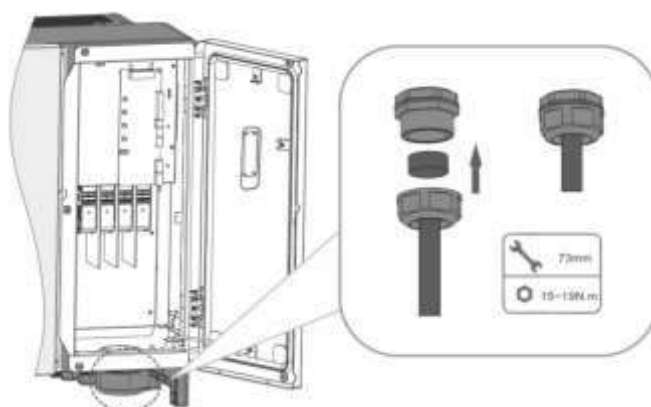

Fig. 4-35 Pull the cable and fasten
- 7) Gently pull the cable backwards to ensure firm connection, and fasten the swivel nut clockwise (Fig. 4-35).